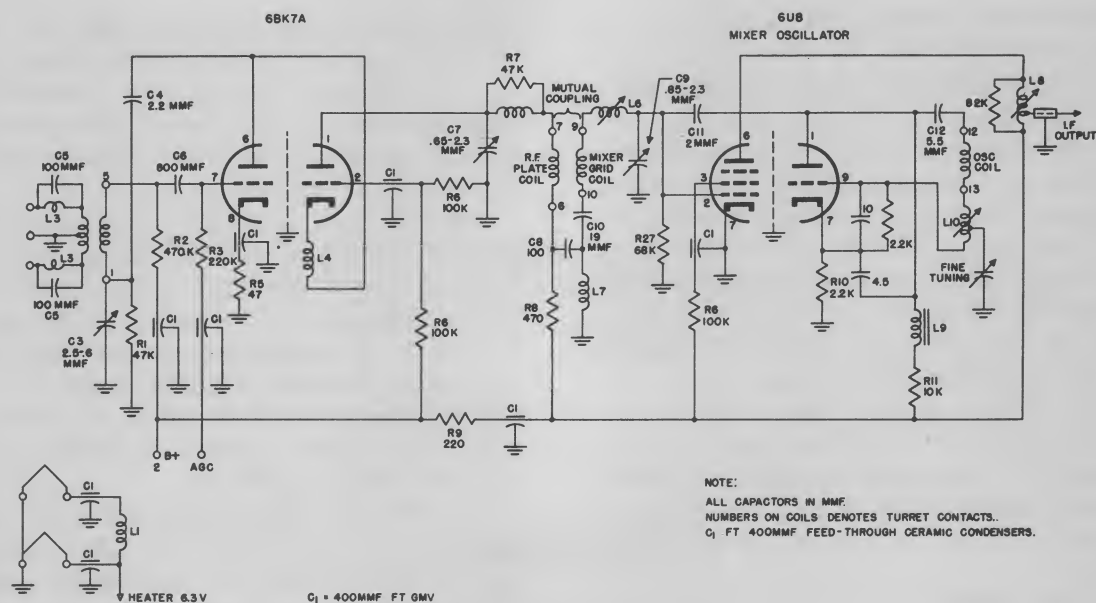
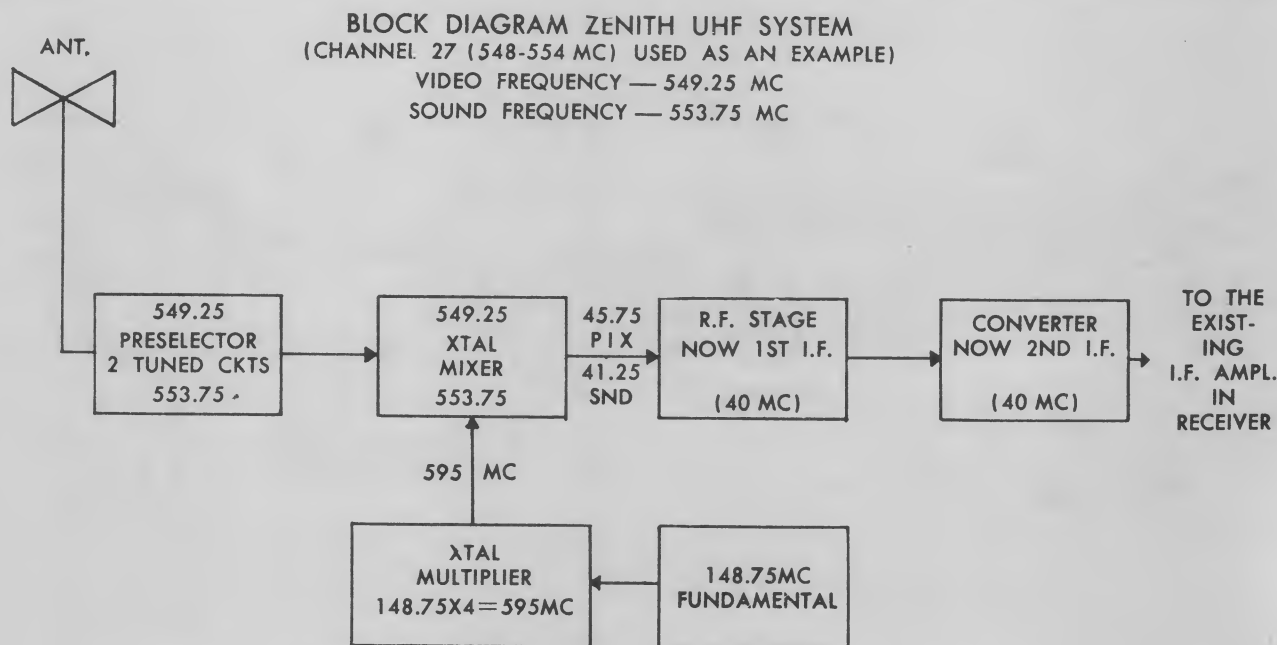
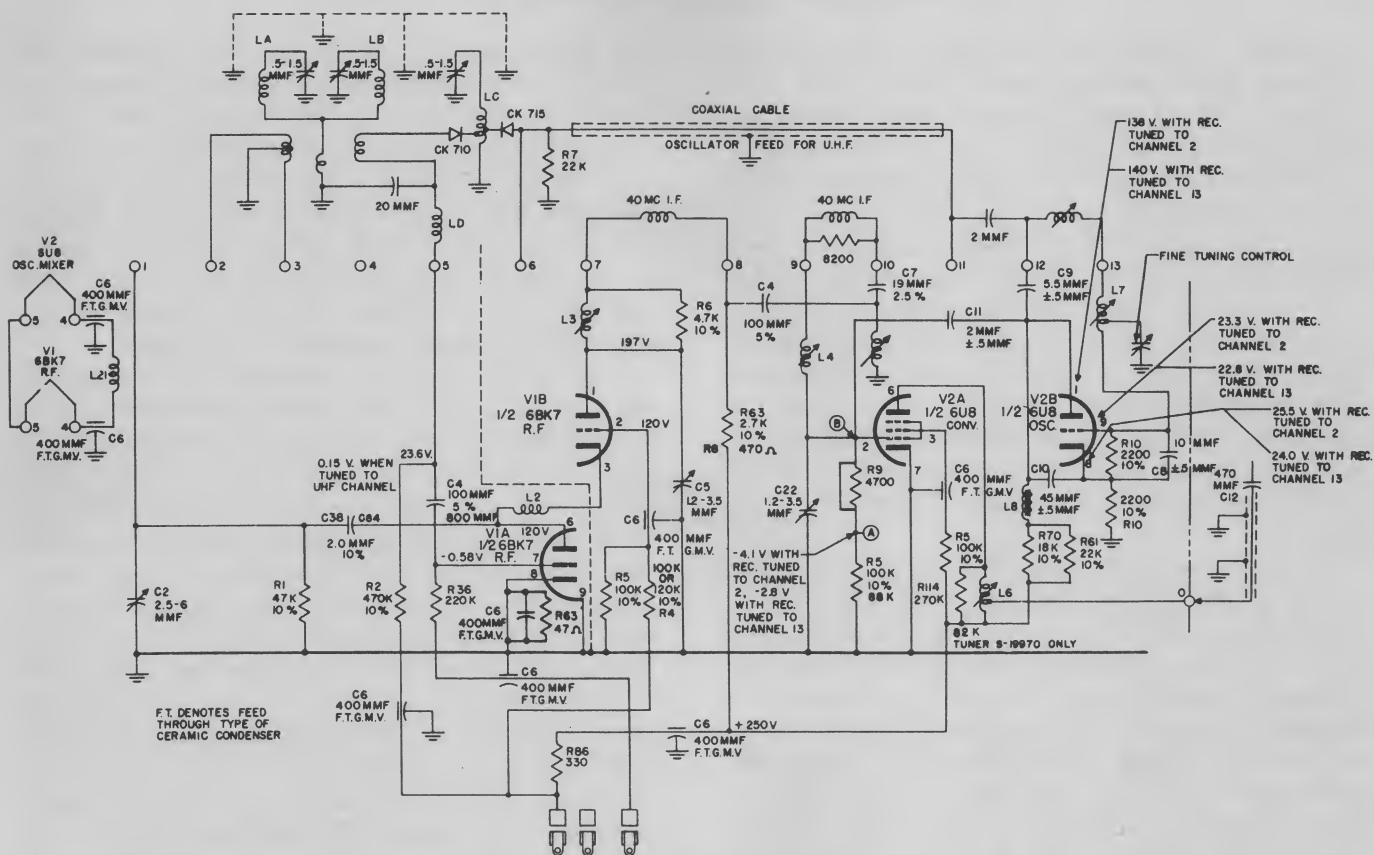

Fig. 9-5. Turret Tuner: Zenith 19L27.
Fig. 9-6. Block diagram of tuner with a pair of uhf strips in place. Courtesy of Zenith.
Fig. 9-7. VHF-uhf front end: Zenith.
a. *Zenith Turret Tuner.* Figure 9-6 is a block
diagram of the front end of a Zenith tuner with a pair of uhf strips in place. Compare Fig. 9-5 with Fig. 9-7, showing the Zenith front end set up for vhf and for uhf reception.
(1) **VHF.** In Fig. 9-5, V1, the 6BK7, is a conventional r-f cascode amplifier, selector-tuned to the incoming channel frequencies. V2A and V2B, pentode and triode sections of a 6U8, act as the mixer and oscillator, respectively. The oscillator is tuned above the incoming channel frequencies. On-channel the plate of the mixer contains the sound and picture i-f carriers (41.25 mc and 45.75 mc, respectively) and their attendant modulation. The vhf strips (two for each channel) mounted edge to edge provide the coils for tuning the oscillator, r-f amplifier, and mixer.
(2) **UHF.** The insertion of two uhf strips for a particular channel alters the circuitry of the front end. Figure 9-6 shows, in block diagram form, how the circuits of Fig. 9-5 were altered by the insertion of the uhf strips. It should be noted that all the changes are incorporated on the strips and are automatically made by turning the channel selector from a vhf to a uhf position.
Refer to Fig. 9-7 for the front end circuits utilizing the uhf strips. LA and LB, the preselector coils, are tuned to the incoming uhf carrier frequencies. They
To understand the conversion process, assume that the uhf strips are set for Channel 27, 548 to 554 mc (see Fig. 9-6). The video carrier is 549.25 mc, and